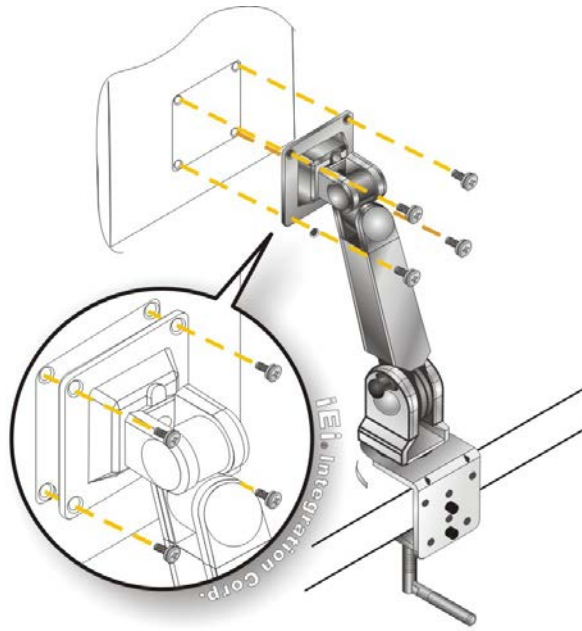

Figure 3-43: Monitor Arm Mounting
Step 2: Secure the monitor to the arm with the supplied retention screws (Figure 3-43).